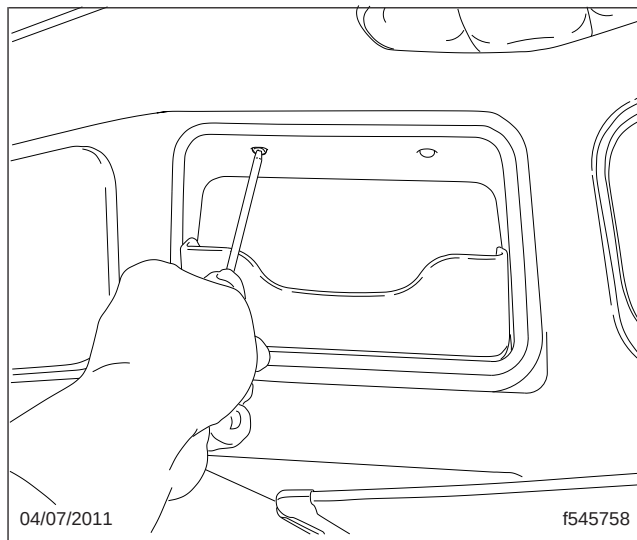

Fig. 1, Sunglass Holder Removal
2. Remove the sunglass holder from the overhead console by removing the two mounting screws. See Fig. 1.